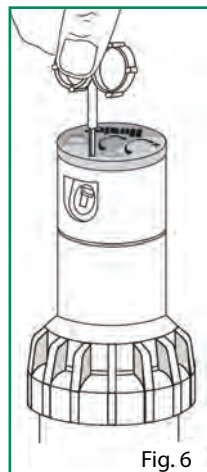

Fig. 6
Insert the steel hex end of the Hunter® wrench into the radius adjustment screw (Fig. 6). Turn the screw clockwise (into the stream of water) to decrease the radius, or counterclockwise to increase the radius. Radius can be reduced up to 25%.
2. Using the hex key of the Hunter® wrench, turn the radius adjustment screw (Fig. 6) counterclockwise to be sure it is not blocking the nozzle socket opening. If a nozzle is already installed, it can be removed by backing out the adjustment screw and turning on the water, or by pulling outward on the nozzle “ears” with a pair of needle-nosed pliers.